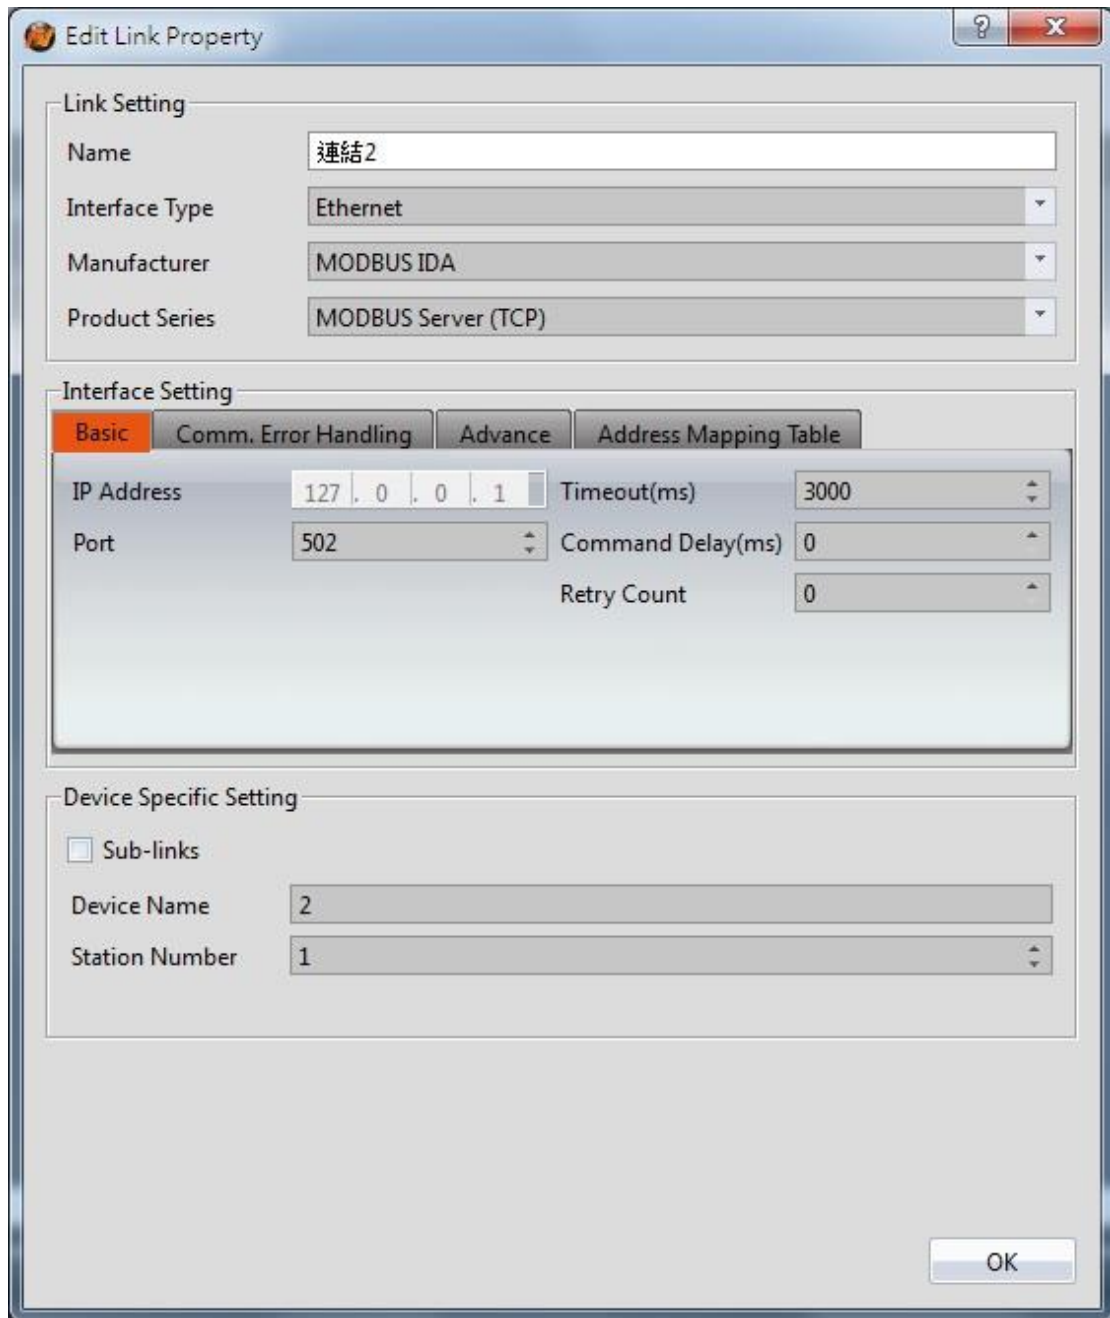

Figure 349 New Modbus Server (TCP) Driver
Step 1: New Modbus Server (TCP) driver, set as shown in Figure 349.